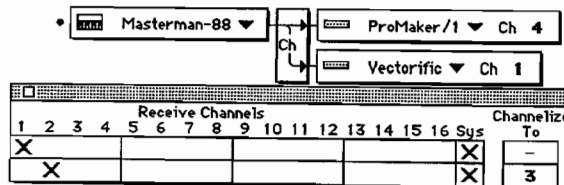

Figure 6-23: Second Channel Splitter Example
- Example 2: Look at Figure 6-23. The top half of the connection hasn't changed, but the bottom half is different. Notice that data is still received by the Channel Splitter module on Channel 3, and sent out the Splitter module. The Vectorific MIDI Destination module is now set to MIDI Channel 1. This means that data entering the MIDI Destination module is channelized *again* to MIDI Channel 1, and that the Vectorific plays the voice assigned to MIDI Channel 1.